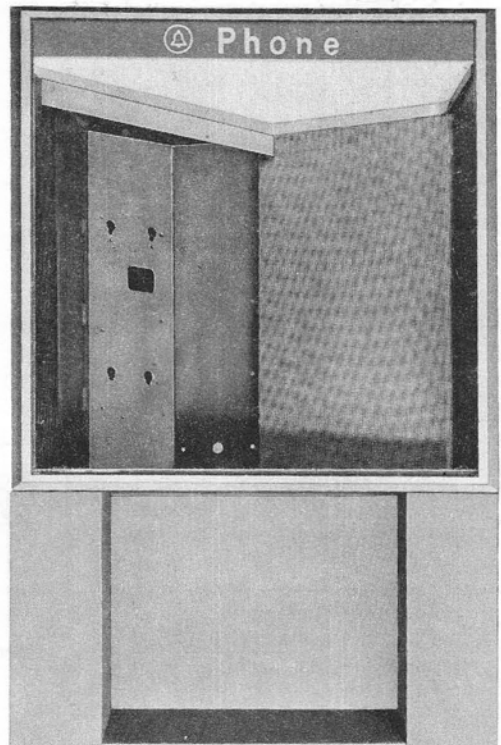

Fig. 11—List 1 Housing With List 10 Panel
- (d) If applicable, install List 10 directory dress panel in wall under the housing (Fig. 11) using six No. 10 FH wood screws or equivalent.